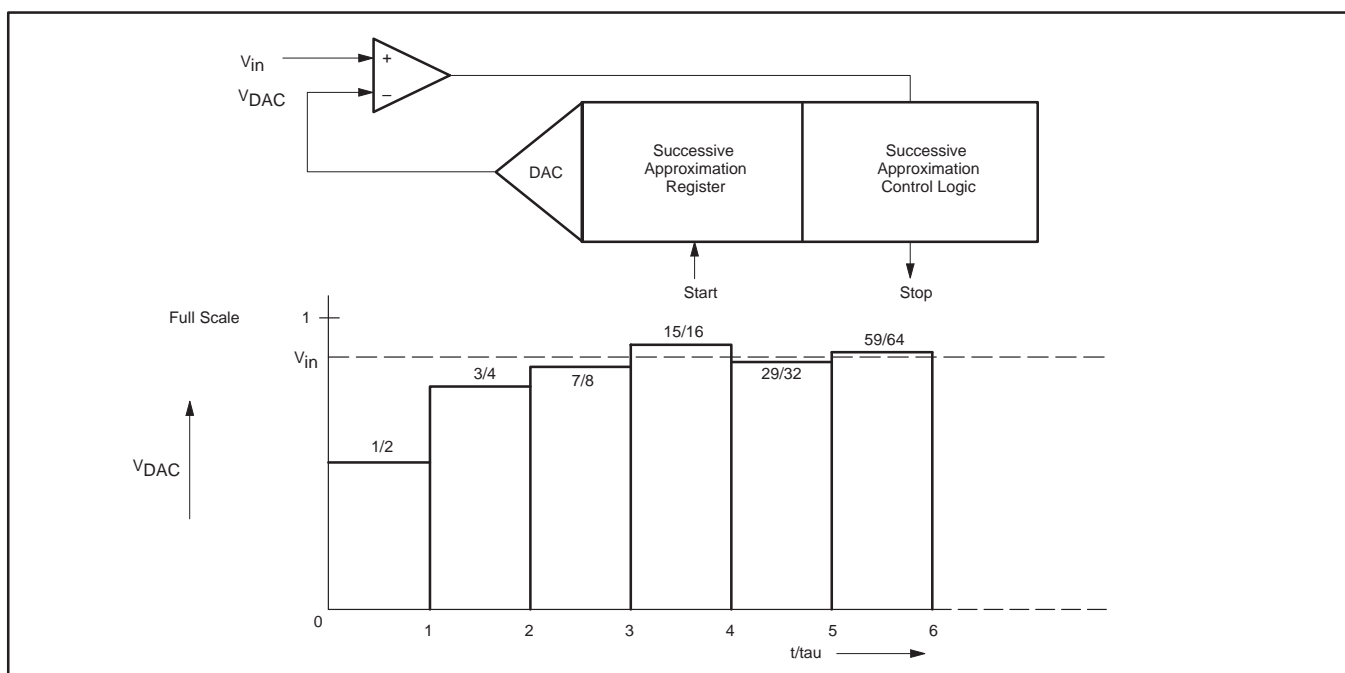

Figure 35. Successive Approximation ADC
Analog-to-Digital Conversion: Figure 35 shows the elements of a successive approximation (SA) ADC. The ADC contains a DAC which converts the contents of a successive approximation register to a voltage (V_{DAC}) which is compared to the analog input voltage (V_{in}). The output of the comparator is fed to the successive approximation control logic which controls the successive approximation register. A conversion is initiated by setting ADSC in the ADCON register. ADSC can be set by software only or by either hardware or software.